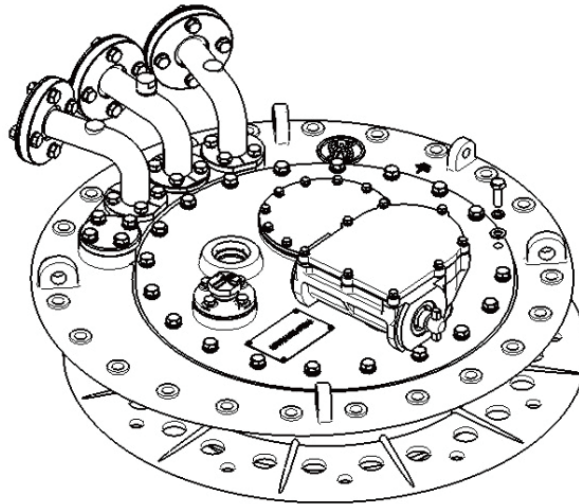

Figure 10 Tap-changer head cover
- 3) Remove the tap-changer head cover (Figure 10).